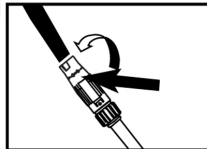
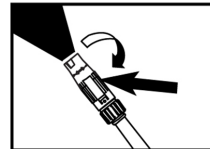

Fig. 1
Fig. 2
Turn off the spray lance first, hold the rear part of spray nozzle, then turn the front part of spray nozzle clockwise, Water may be sprayed out from the spray nozzle in fan shapes (fig 2); Turn the front part of spray nozzle anti-clockwise, Water may be sprayed out from the spray nozzle linearly (fig 1).
**CAUTION:** Water should be sprayed out from the spray nozzle in fan shapes (fig 2), when cleaning the car or other vehicle.